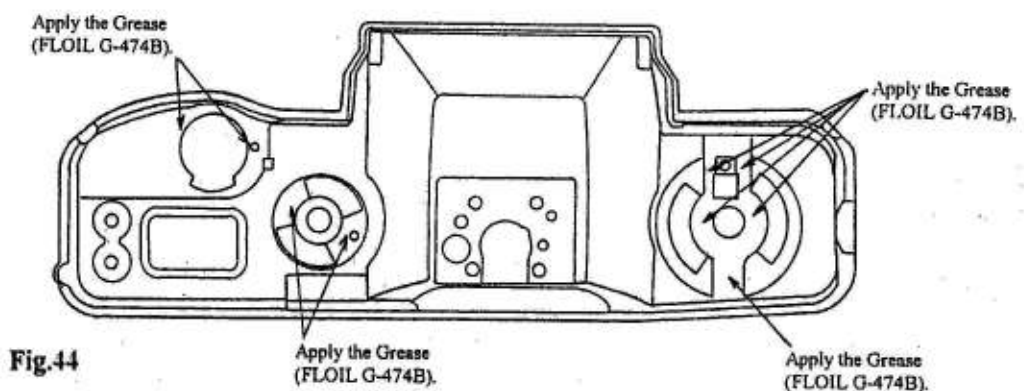

Fig.44
* As shown in Fig. 44, apply the Grease (FLOIL G-474B) to the specified points inside the Top Cover.